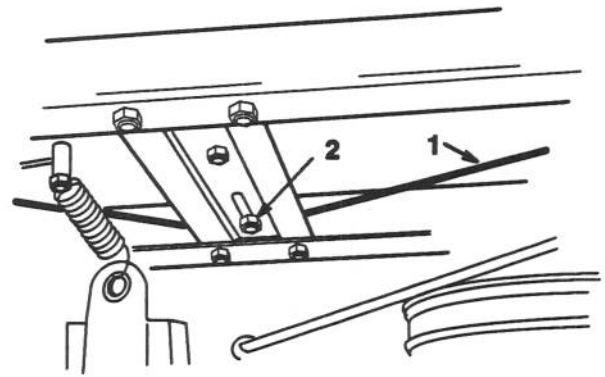

Figure 11
2. Check the cable tension. Cable should be taught and have 1/2 inch movement with slight pressure applied (Fig. 11).
3. To adjust the cable tension loosen the front cable guide, located on tractor brace above deck pulley. Slide guide sideways as required for proper tension (Fig. 11).